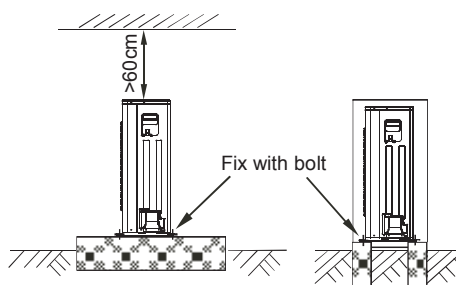

Fig.6-6
- Make concrete foundation according to the specifications of the outdoor units. (Refer to Fig.6-6)
- Fasten the feet of this unit with bolts firmly to prevent it from collapsing in case of earthquake or strong wind. (Refer to Fig.6-6)